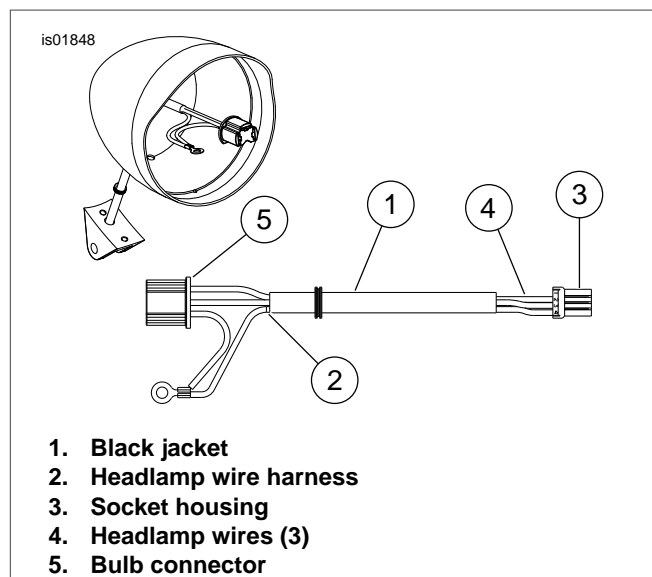

Figure 10. Remove Black Jacket, Socket Housing, and Strip Wires
3. See Figure 10. Remove 1-1/2 inch (38.1 mm) of black jacket (1) at a convenient location from headlamp wire harness (2).
4. Using wire cutters, remove the headlamp socket housing (3).